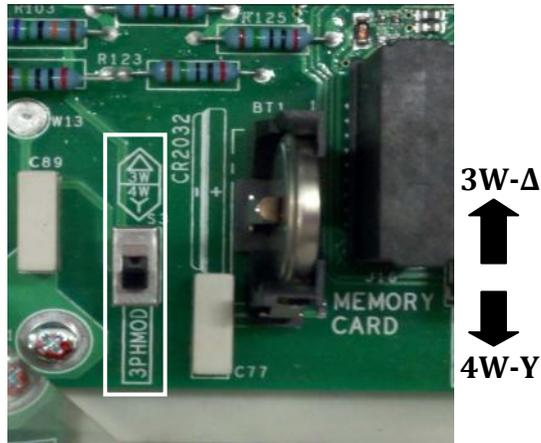

Figure 3.12 - Grid-Type configuration; 3W-Δ/ 4W-Y
- If the array is designed for the parallel MPPT input mode, ensure the jumpers shown in Figure 3.12 are in place.